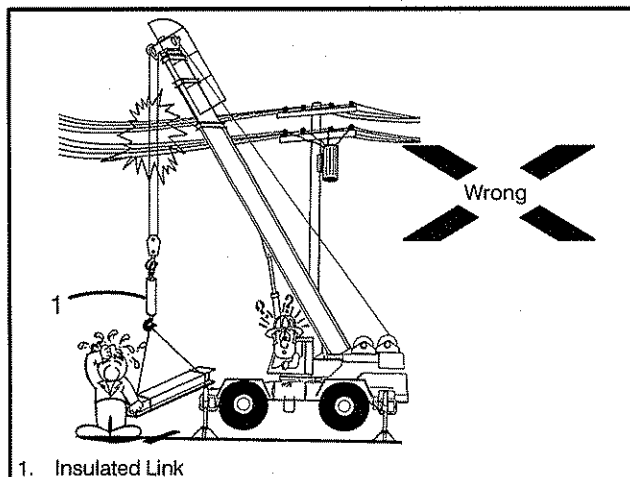

Figure 1-18
- f. The use of boom point guards, proximity devices, insulated hooks or swing limit stops do not assure safety. Even if codes or regulations require the use of such devices, you must follow rules listed here. If you do not follow them, the result could be serious injury or death. Figure 1-15 through Figure 1-18 portray some of the limitations of the devices.